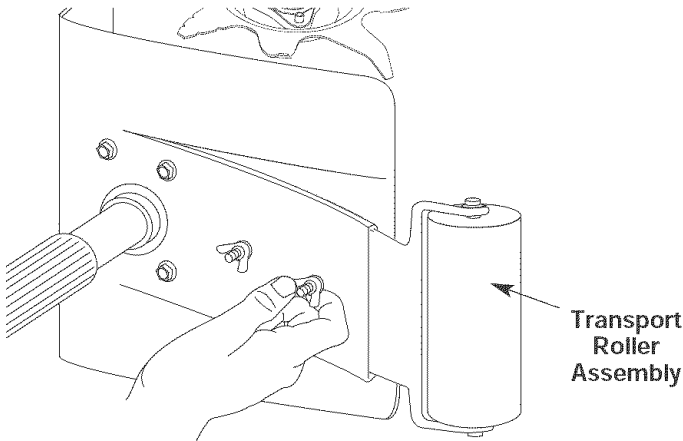

Fig. 4
4. Make sure the square shoulder of the bolts is pushed through the slotted holes in the roller bracket. Tighten the wing nuts (Fig. 4).